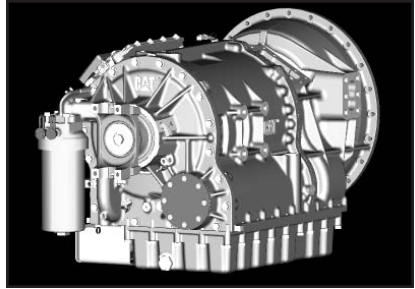

Fig. 21
2. Remove the P.T.O. rear aperture plate with an 18 mm socket. (**Fig. 21**)